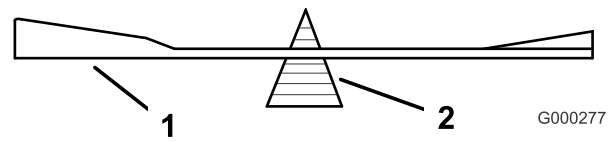
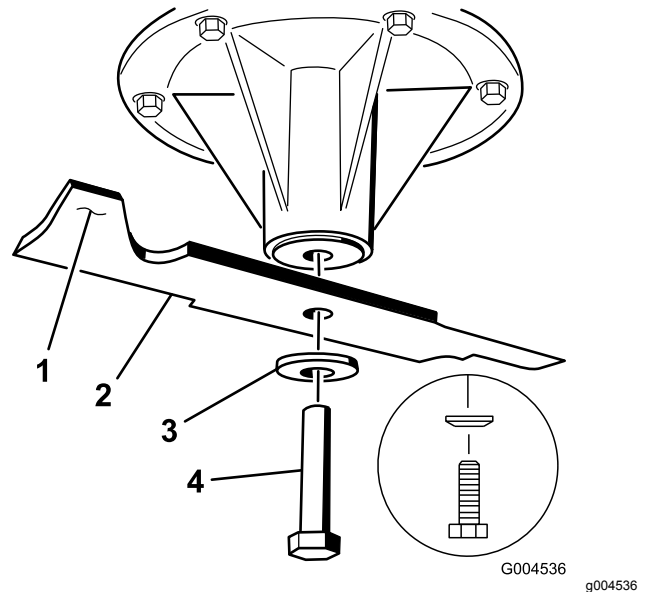

Figure 81
Figure 82
2. Remove the blade bolt, spring disk and blade from the spindle shaft (Figure 82).
2. Check the balance of the blade by putting it on a blade balancer (Figure 81). If the blade stays in a horizontal position, the blade is balanced and can be used. If the blade is not balanced, file some metal off the end of the sail area only (Figure 82). Repeat this procedure until the blade is balanced.
1. Install the blade onto the spindle shaft (Figure 82).
2. Install the curved washer and blade bolt. The curved washer cone must be installed toward the bolt head (Figure 82). Torque the blade bolt to 115 to 150 N·m (85 to 110 ft-lb).